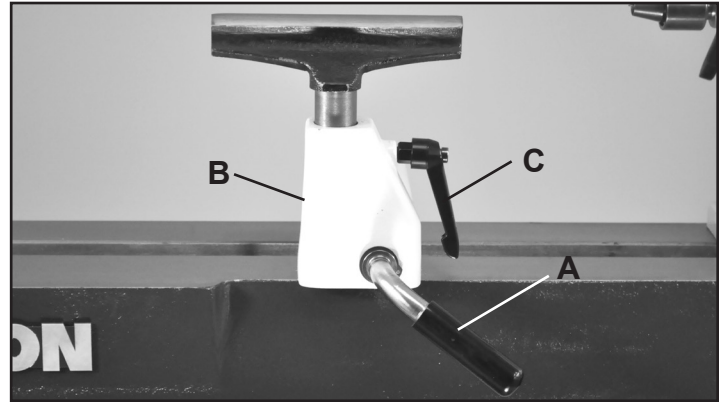

FIG. 4
1. **TOOL REST BODY LOCK HANDLE:** (FIG. 4, A) This cam action lever handle locks the tool rest base (B) down in position on the lathe bed. Unlock handle to position the tool rest in any location along the lathe bed. Tighten the handle when the tool rest is properly located for safe turning of the workpiece.
2. **TOOL REST LOCK HANDLE:** (C) Locks the tool rest in position for supporting your tools during turning. Unlock the handle to adjust the tool rest at a specific angle, or height. Tighten handle when properly positioned.